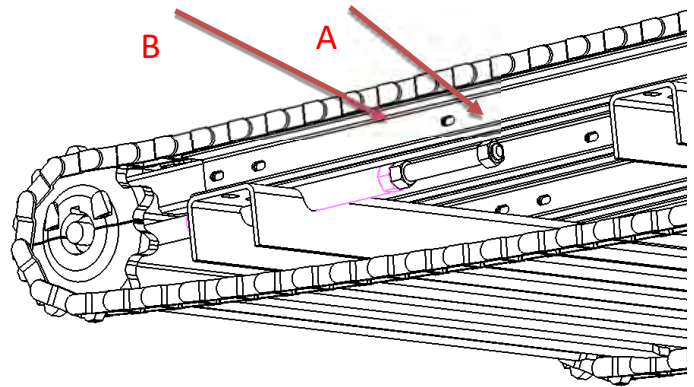

Figure 7-2: Sectioned View of the Floor Chains with Adjustment Rods
1. Under the floors at the end there is a tensioning system that uses two,  $\frac{3}{4}$ " adjustment rods (A) as show in Figure 7-2. To start tensioning loosen the hex nuts (B).
2. Drive the adjustment rods (A) in small amounts at a time while measuring the slack until it reaches the preferred level.